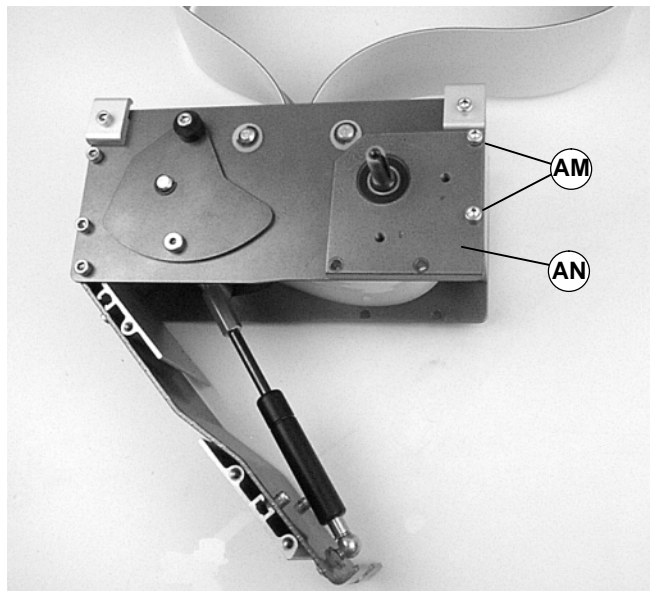
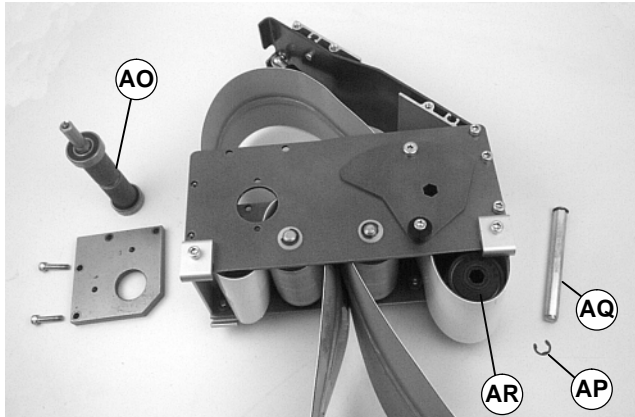
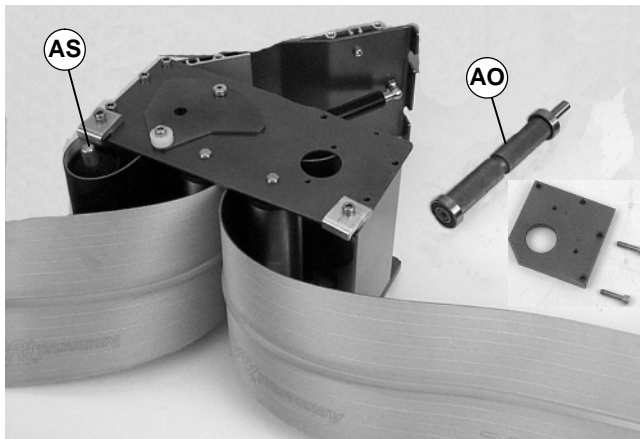

Figure 27
Figure 28
Figure 29
1. Remove two (2) screws (AM of Figure 27). Remove tension drive plate (AN).
2. Remove drive pulley [AO of Figure 28, 44 mm, 70 mm or 95 mm wide conveyor] or [AO of Figure 29, 127 mm or wider conveyor].
- For 44 mm, 70 mm or 95 mm wide conveyor, detach E-ring clip (AP of Figure 28). Remove pulley shaft (AQ) and remove pulley (AR).
- For 127 mm or wider conveyor, depress both sides of spring-loaded shaft and remove pulley (AS of Figure 29).
3. Place grooved idler pulley (AR of Figure 28 or AS of Figure 29) into belt loop and replace in center drive module. Refer to “Belt Removal from Center Drive Module” section and reverse step 3 on page 11.
4. Place drive pulley (AO of Figure 28 or 29) into belt loop and replace in center drive module. Refer to “Belt Removal from Center Drive Module” section and reverse steps 1 and 2 on page 10. Tighten screws (AM of Figure 27) to 9 Nm.